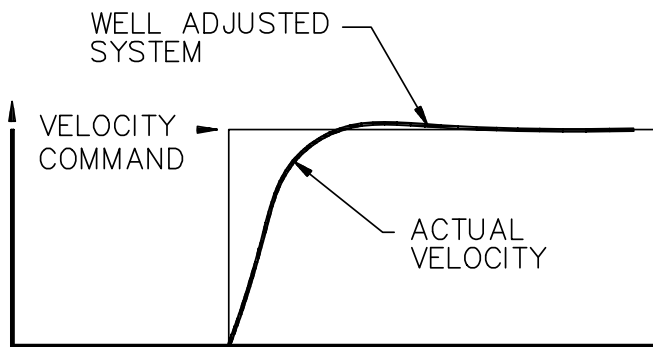

Fig 4.6 Speed Loop Response, correct response
- Adjust the proportional gain to improve the slope of the step response. Fig 4.6 illustrates the velocity wave form for a properly tuned loop.